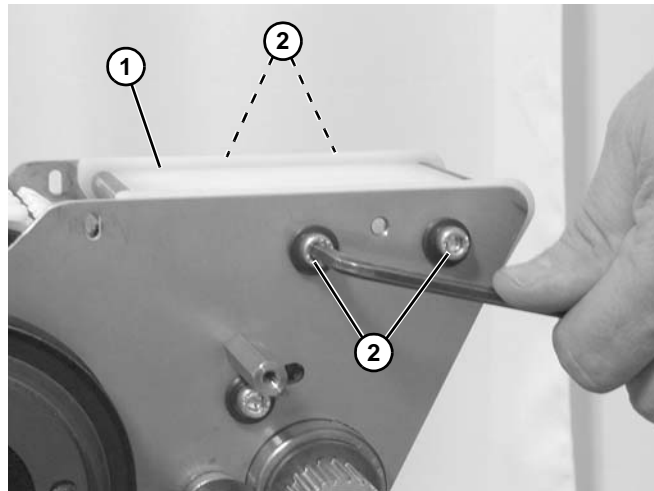

Figure 175
5. Install wear bar assembly (**Figure 175, item 1**) with four socket head screws (**Figure 175, item 2**).